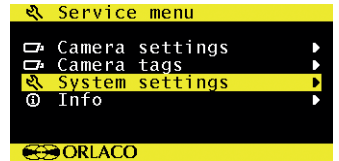

Figure 10
3.3. System settings (see Figure 10)